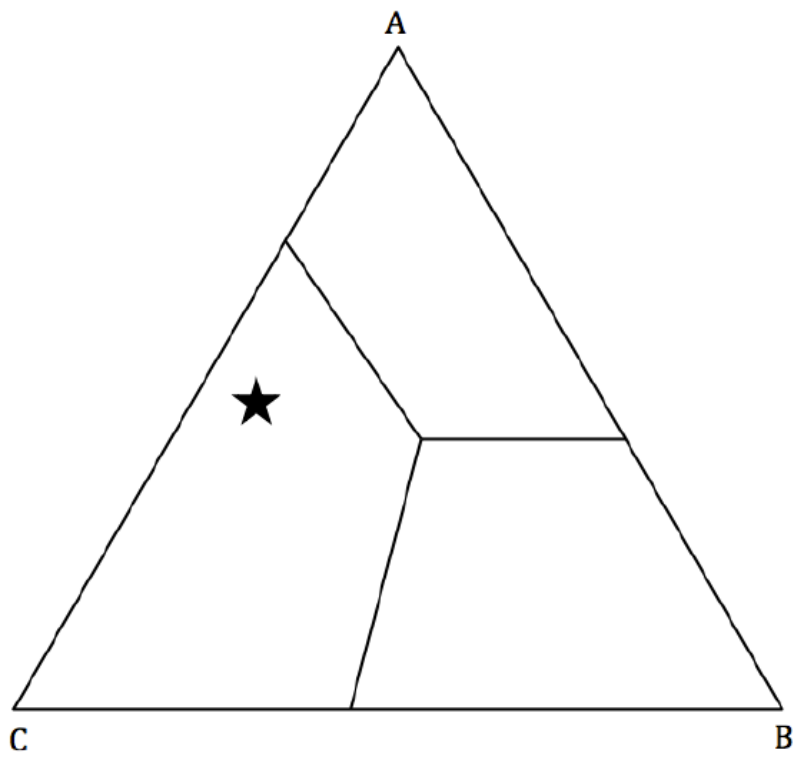

Figure .7: Liquidus projection diagram.
12. Using the attached liquidus projection diagram for the hypothetical system A-B-C shown in Figure .7, complete the following: